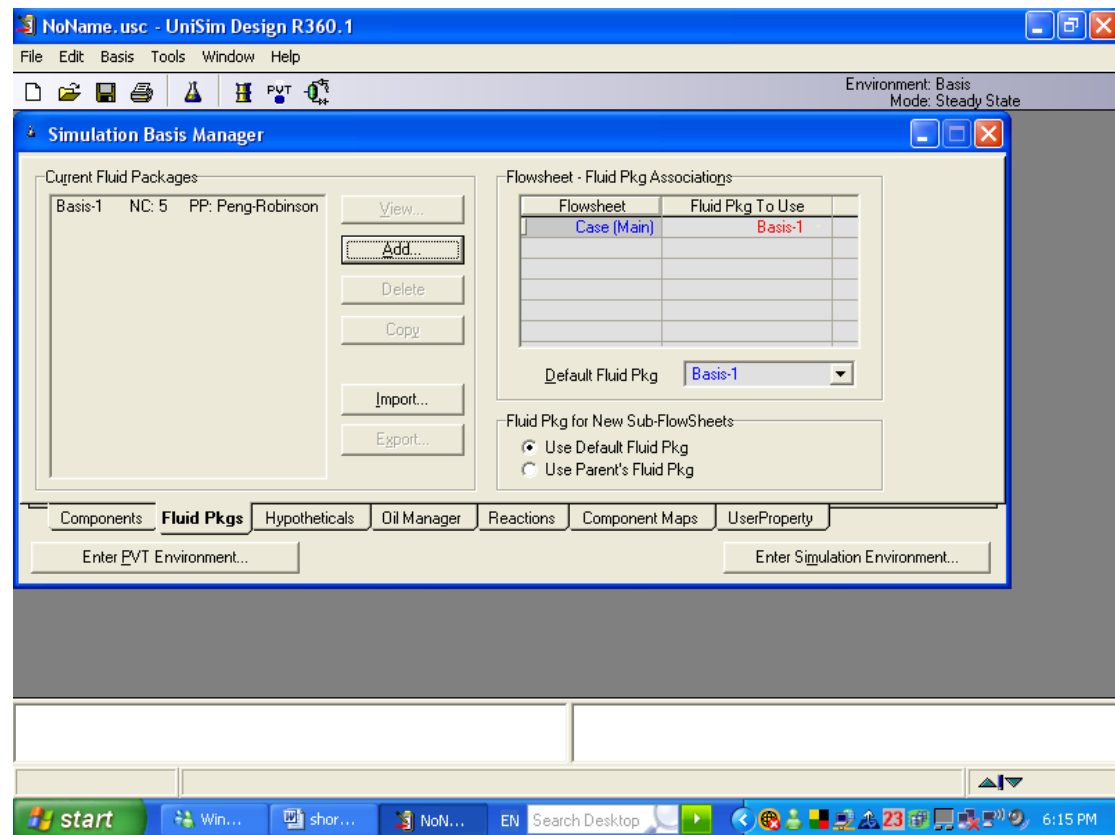

Figure K-11. Snapshot of Simulation Basis Manager window.
Step 11. Close the window and return to the Simulation Basis Manager window as shown in Figure K-11. Click on **Enter Simulation Environment** button as shown in Figure K-11.